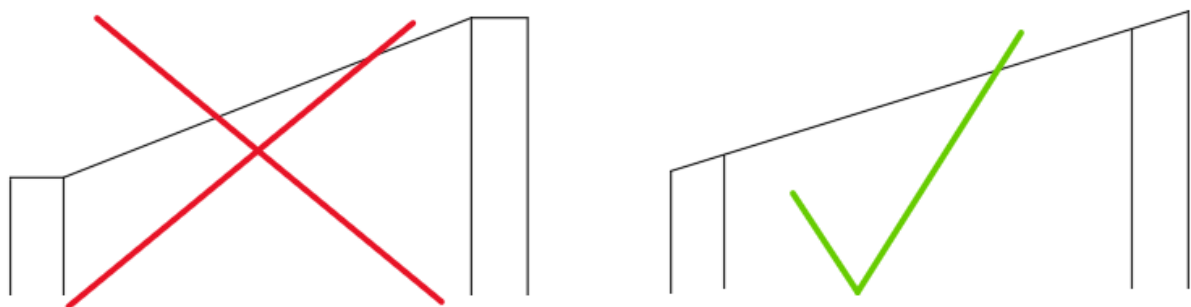

Figure 1 – Curb top surface set-up
- Before starting installation, Glazing Vision advises that the physical curb dimensions are cross-checked with those given for the order, to ensure the product will fit. The curb will need to be within $\pm 3/8"$ of the ordered size. The top surface of the curb should be in plane with the skylight (see figure 1) without undulations greater than $\pm 1/16"$. Also check the diagonals to ensure that the curb has been constructed square. The curb must be weathered as per the sales drawings. **If using any metallic waterproofing material, this cannot be applied across the top surface of the curb as this will cause a thermal bridge which can lead to internal condensation and invalidate the product warranty.**